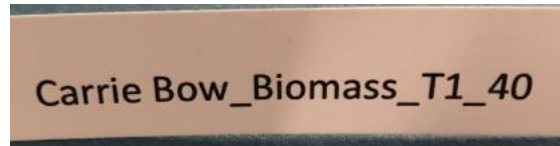

Figure 1. Example label with site (Carrie Bow), method (biomass), transect (1), and replicate (40 m).
2. Place an internal label written on waterproof paper with the site, method, transect, and replicate number inside each of 9 plastic bags (Fig. 1).
6. Separate seagrasses into above- and belowground components by gently pinching at the meristem (the intersection of the shoots and rhizomes) until they separate (Fig. 1).